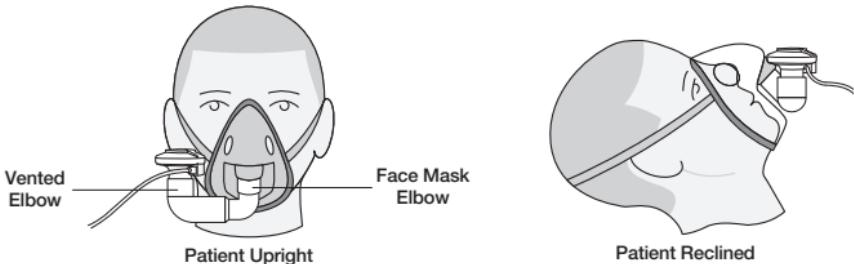

Figure 11. Connecting to a mask
2. Rotate the vented elbow to suit the position of the patient (Figure 11).
Warning: To ensure correct nebulisation, maintain the nebuliser in a vertical orientation (Figure 11).